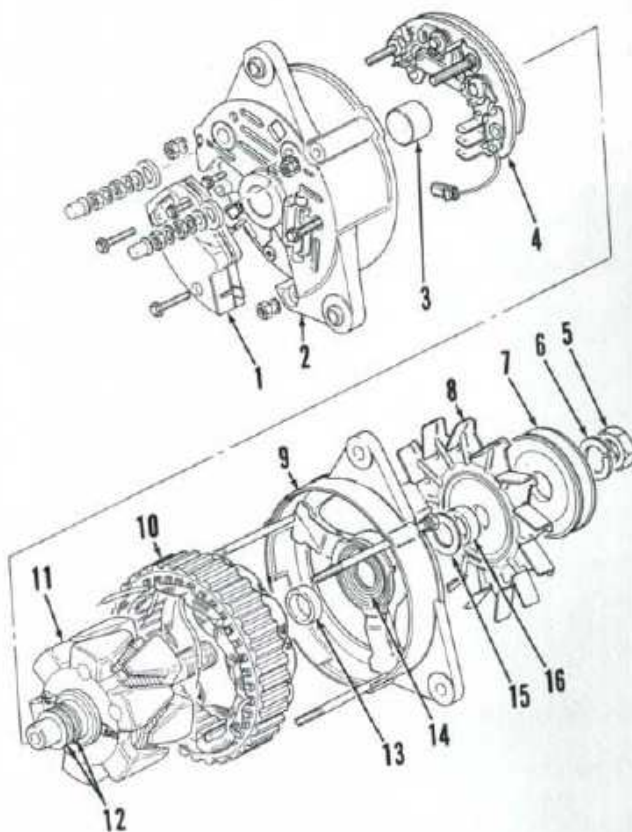

Fig. 71—Exploded view of Lucas Model A127-45 or A127-65 alternators.
brush holder assembly (1—Fig. 71). Place an alignment chalk mark across slip ring end frame (2), stator frame (10) and drive end frame (9). Remove the three through-bolt nuts and lockwashers and separate slip ring end frame (2) and stator (10) from drive end frame and rotor. Remove nuts, washers and insulators from stud terminals and the two screws securing stator to rear frame, then remove stator. Unsolder and remove stator leads from rectifier and separate rectifier from stator.